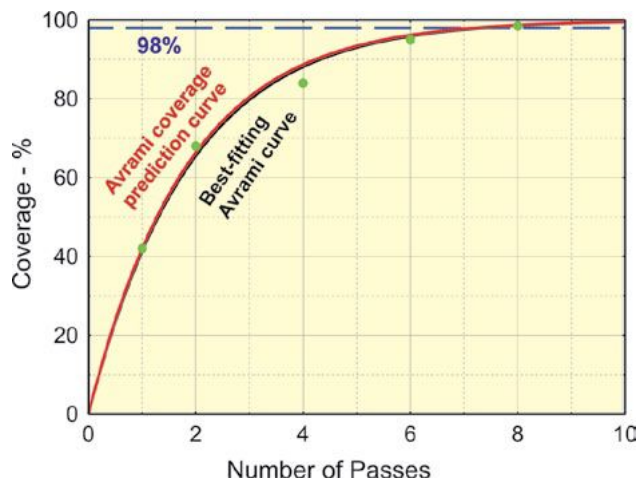

Fig.5. Avrami coverage prediction and 'best-fitting' curves for data given in Table 1.
Fig.5 shows the data points of Table 1 plotted together with (a) a coverage prediction curve using the first data point as C_1 in equation (2) and (b) an Avrami curve best-fitting to the set of data points. It can be seen from fig.5 that the predicted and actual curves are very close to one another. The actual data points do not lie exactly on the best-fitting curve – as would be expected.